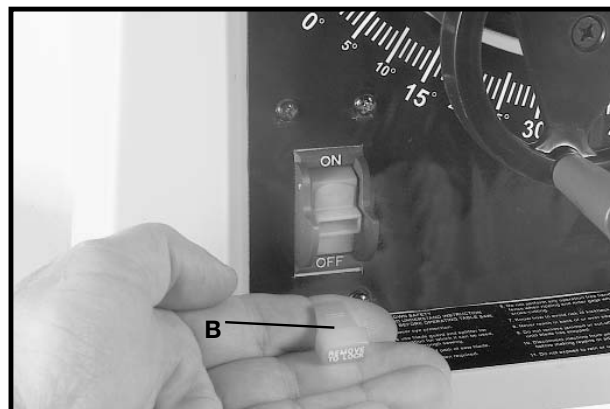

Fig. 30
IMPORTANT: When the tool is not in use, the switch should be locked in the "OFF" position to prevent unauthorized use. To lock the tool, grasp the switch toggle (B) and pull it out of the switch (Fig. 30). With the switch toggle (B) removed, the switch will not operate. However, should the switch toggle be removed while the saw is running, the machine can be turned "OFF," but cannot be restarted without re-inserting the switch toggle (B).